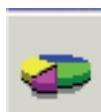
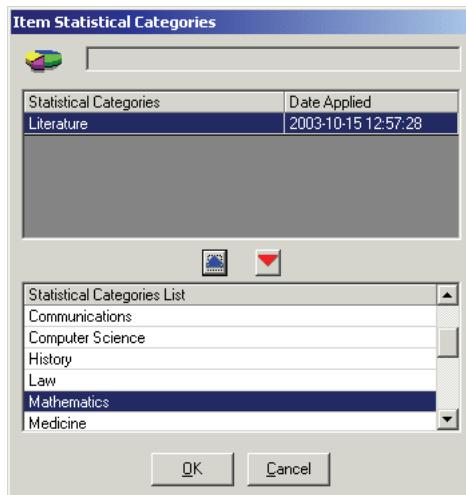

Figure 10-17. Item Statistical Category button
Figure 10-18. Item Statistical Categories dialog box
19. Click the **Item Statistical Category** button (Figure 10-17) to open the **Item Statistical Categories** dialog box (see Figure 10-18). Sites can define types of item characteristics that are not needed for Cataloging but are useful for statistical compilations.